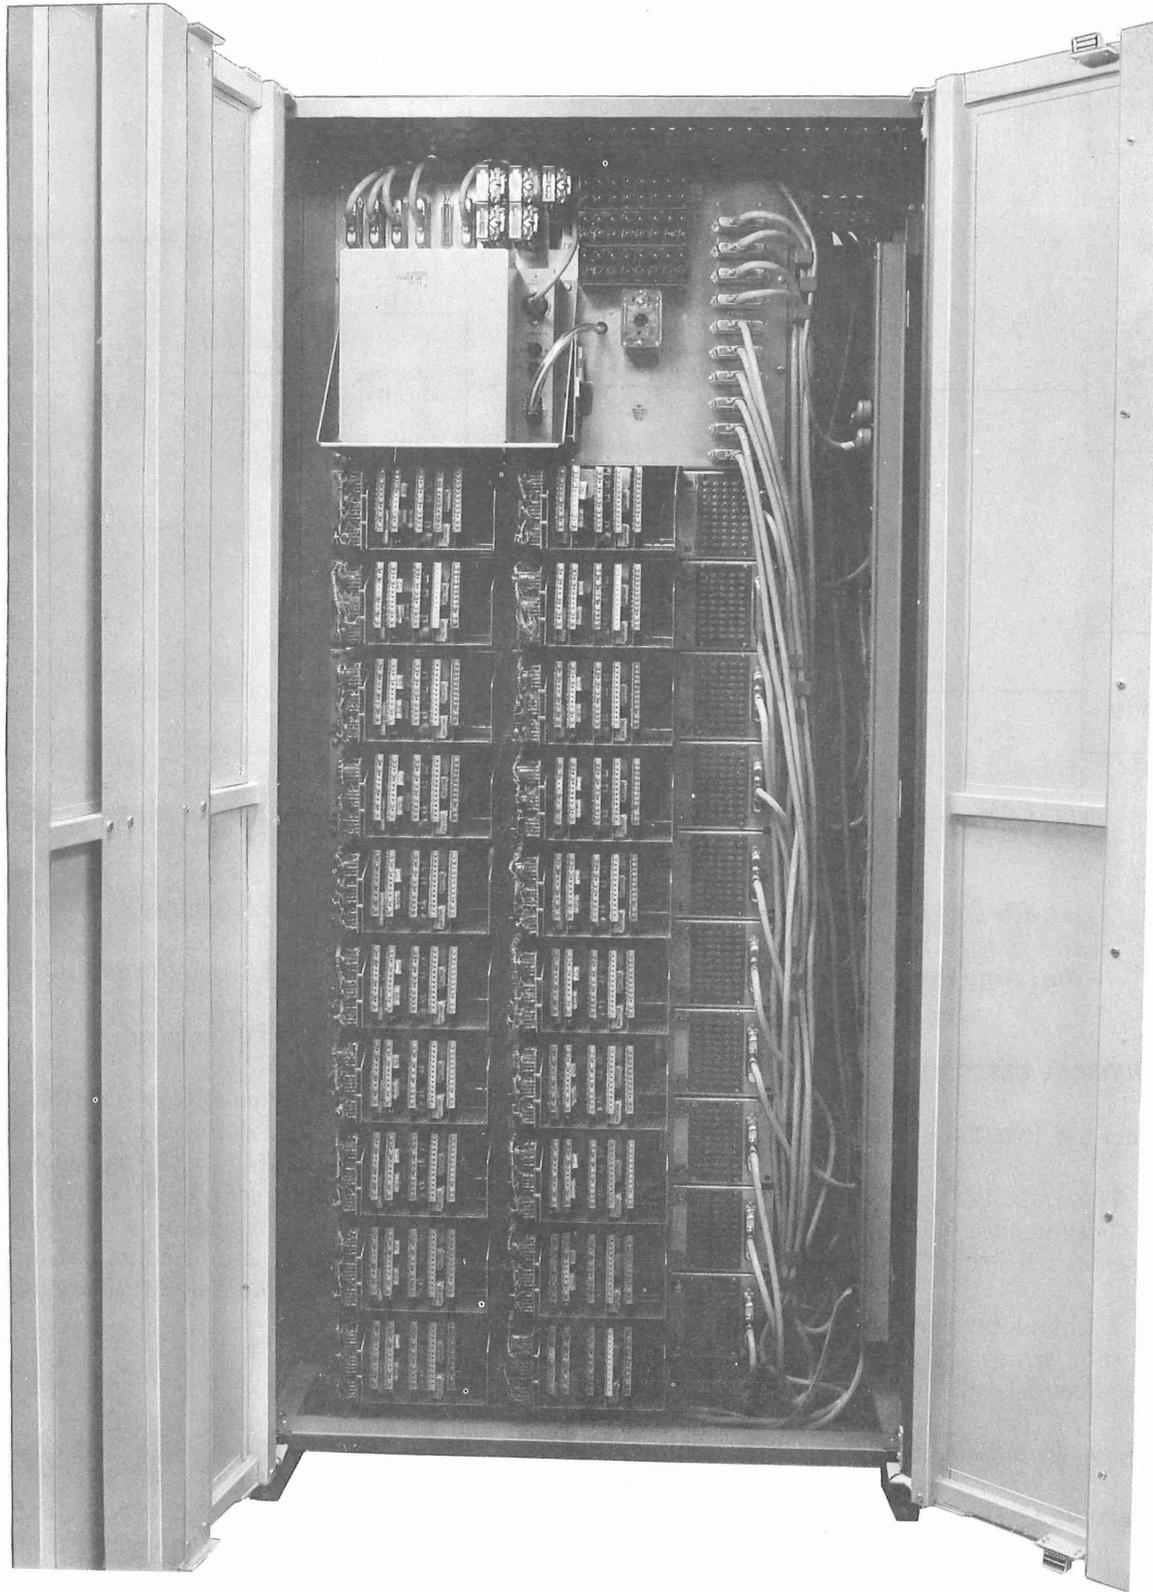

Fig. 3—Data Set 103E-Type Data Station—Cabinet Doors Open
2.01 The Data Set 103E-type Data Station (Fig. 3) is intended to be assembled on the customer premises in a KS-20093 cabinet.